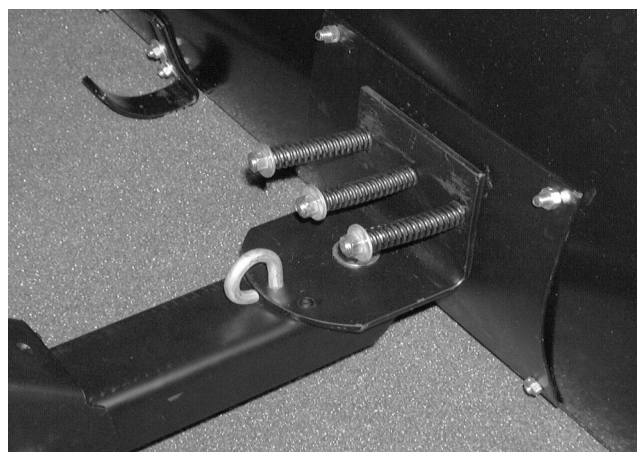

FIGURE 2.
2. The normal adjustment for the spring tension is for the top of the hex nuts to be flush with the end of the hex bolts. To tighten the blade trip action, tighten the hex nuts using a 9/16" socket. See figure 2.